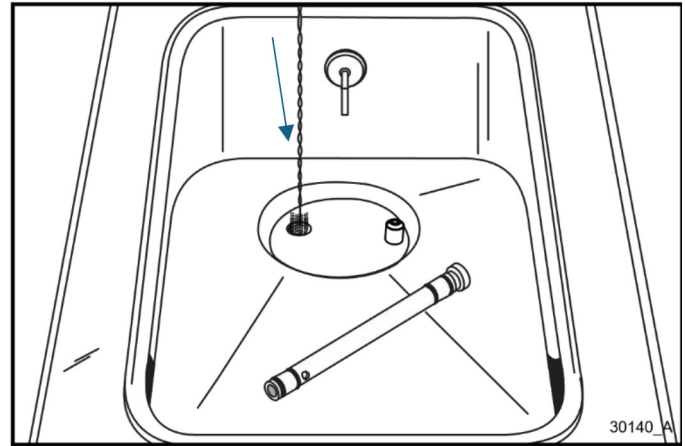

Figure 5-11
5. Clear any clogged product from the feed tube (Figure 5-11.) then lay feed tube back into the hopper for a final rinse.